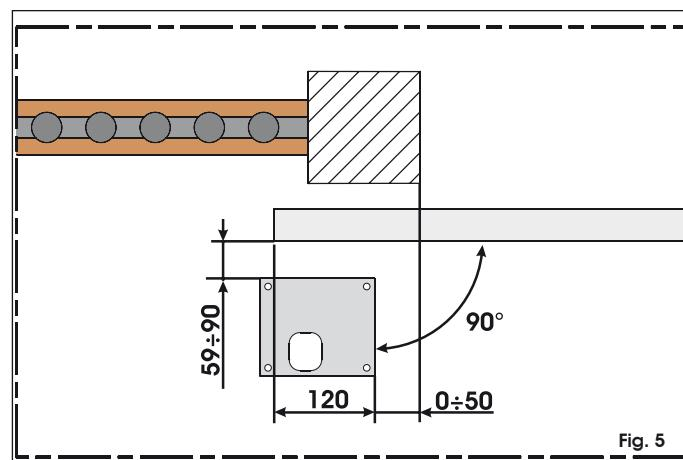
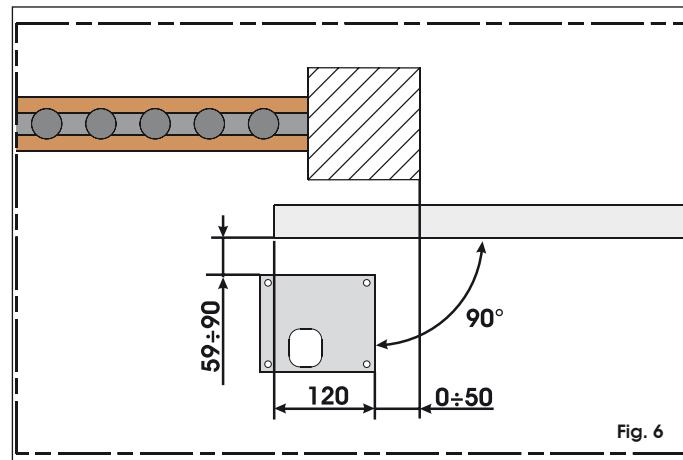

Fig. 5
Fig. 6
2. Dig a cavity for the foundation plate as shown in Fig. 4. The foundation plate must be located as shown in Fig. 5 (right closing) or Fig.6 (left closing) to ensure correct meshing between rack and pinion.
2) The operator is supplied for installation with the gate closing on the right of the operator (looking from the inside) (fig. 5). If you require left-hand closure, change over the connection of the cables connected to the terminals of the motor.